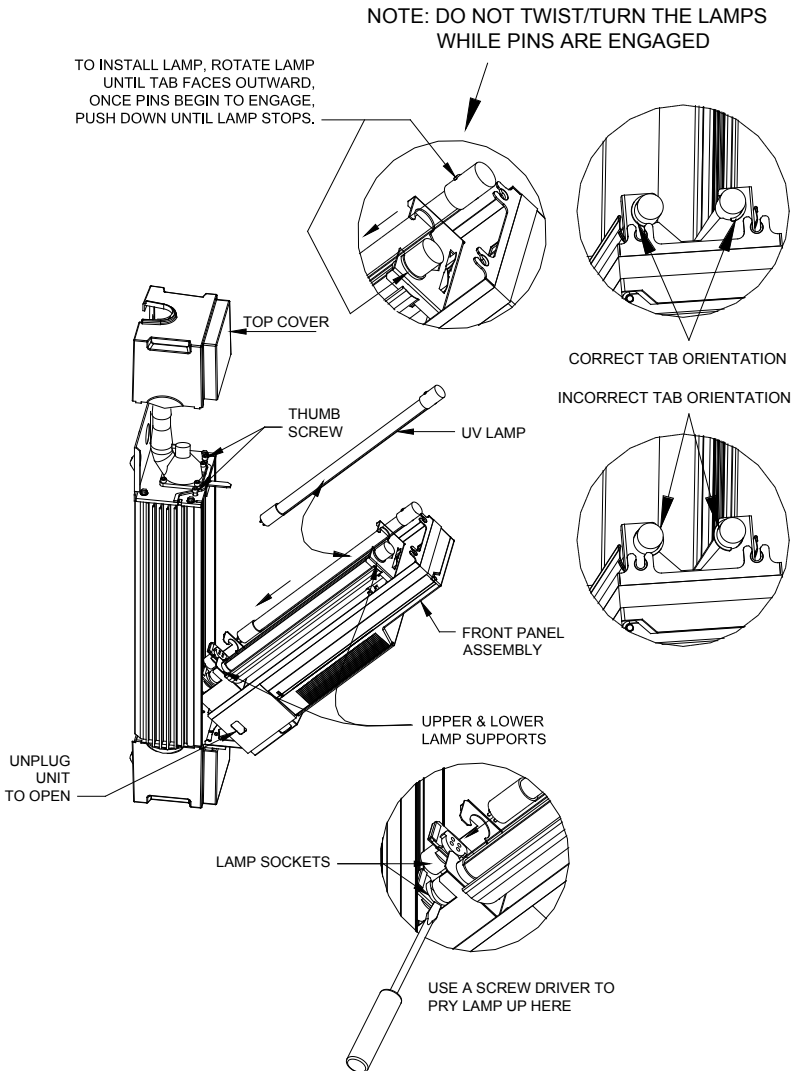

Figure 3
The lamps can be easily replaced in minutes. Draining the system or removing it from the wall is not required. See Figure 3.
Step 3. CAUTION: The lamps are very hot after continuous use and can burn your skin on contact. Allow lamps to cool for five minutes before removing them. Slowly lift the old lamps out of the system. **Do not twist the lamps as they are being removed.** To help remove the lamps, insert a flat bladed screwdriver between the lamp base and its socket and lightly pry the lamps upward (see Figure 3). Dispose of the old lamps in the same way you would dispose of ordinary fluorescent lamps. Note that old lamps should be disposed of at a household waste management depot or transfer station; contact your local recycling and waste management authority for proper disposal procedures.
Step 4: Install the new lamps into the KUV 1200x, being careful not to touch the bulb. **Ensure that the lamps are aligned with the tab facing the outside of the system (left or right side of the system), or, if the lamps have a stop sign printed on the top ceramic, that the stop sign is facing inward. If you can see the stop sign, the lamps are backward (See Figure 3).**